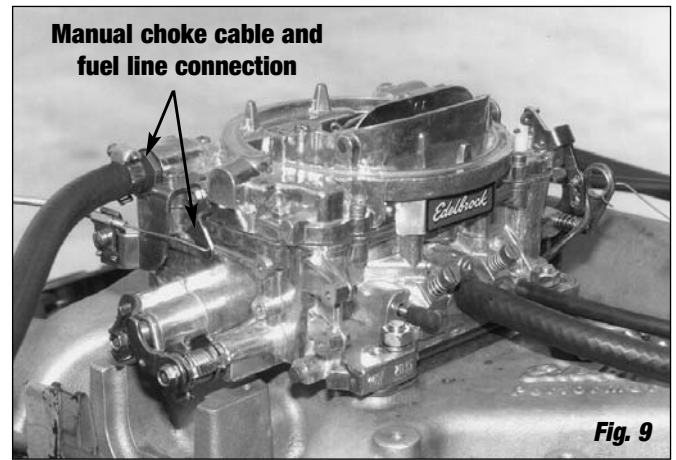

Fig. 9
5. Connect manual choke cable to the provided lever attachment point and cable mounting bracket (manual choke models) (**See Fig. 9**). Electric choke models connect red choke wire to 12 volt (+) source that is activated by ignition switch (**Not coil or alternator, see Fig. 7**).